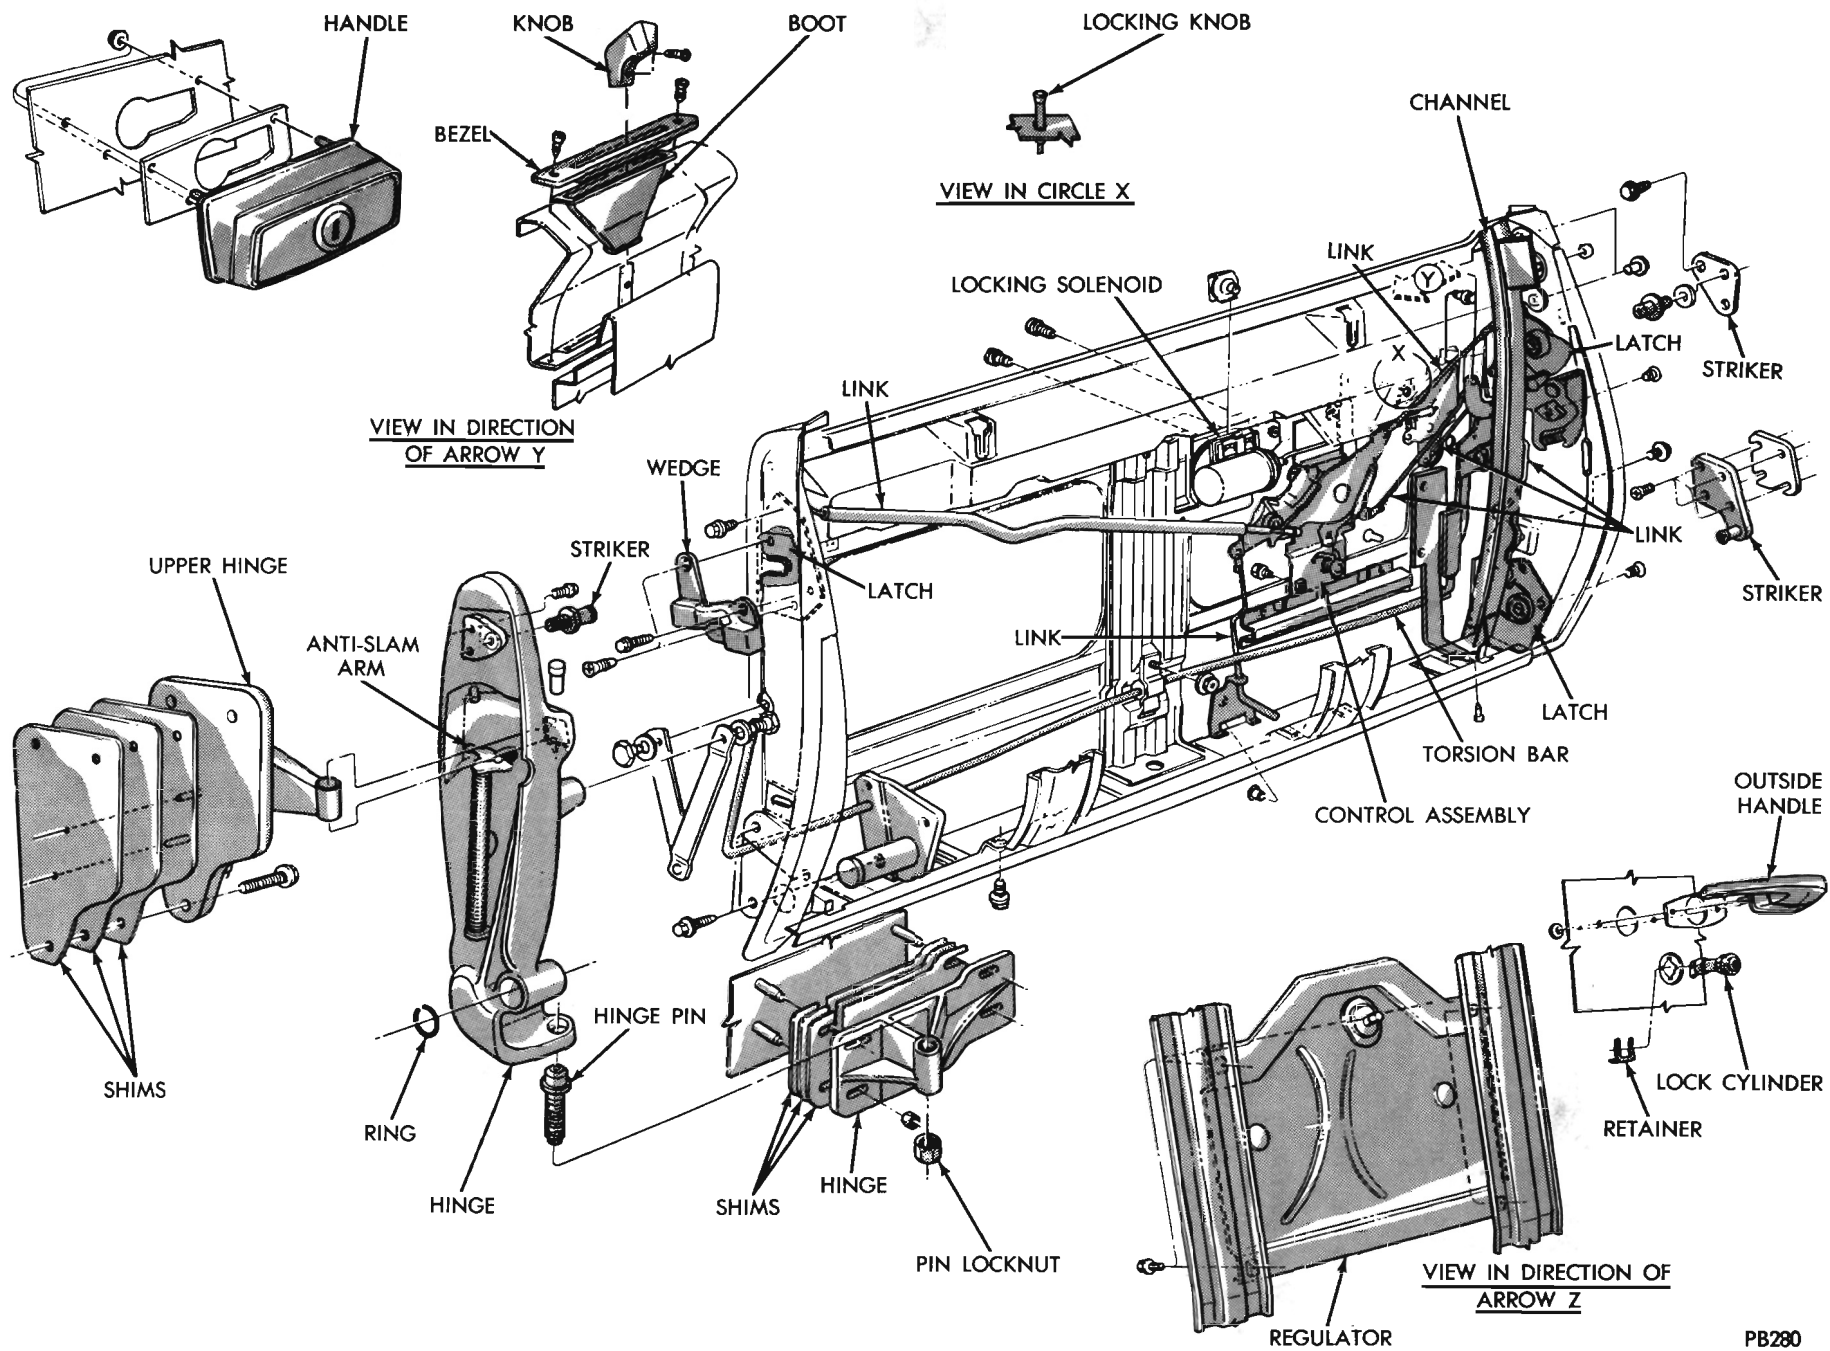

Fig. 23 - Tailgate Application
1. Hinge pin adjustment, Fig. 23.
(1) Remove check arm and torsion bar guide from pillar guide plates.
(2) Support tailgate on jacks or stands.
(3) Loosen hinge pivot pin locking screws (Fig. 23).
(4) Use a pencil and outline hinge plate position on pillar post for future assembly.
(5) Remove hinge plate attaching bolts from pillar post.
(6) Slide hinge plate and torsion bar in through guide toward center of tailgate.
(7) Lower tailgate down and out of body opening.
(1) Remove trim panel from tailgate.
(2) Remove screws attaching torsion bar clamp to tailgate pillar (Fig. 23) and remove clamp.
(3) Remove torsion bar bearing retainer and bearing.
(4) Remove screws attaching torsion bar and hinge to tailgate.
(5) Remove torsion bar from hinge.
(1) Lubricate torsion bar at right hinge area and at torsion bar bearing area.
(2) Install hinge on torsion bar and insert torsion bar into tailgate.
(3) Position hinge to tailgate and install mounting screws. Tighten screws.
(4) Install bearing and bearing retainer on torsion bar (Fig. 23). Tighten retainer nut.